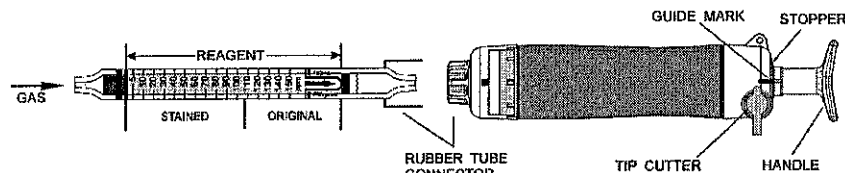

Fig.1
- ② Insert the detector tube into the aspirating pump securely as shown in Fig.1. (Arrow mark shall point to the pump.)
- ③ Align the guide marks on the shaft and stopper of the aspirating pump.
- ④ Pull the pump handle at a full stroke until it locks and wait for 1.5 minutes or until the completion of sampling is confirmed with the flow indicator of the pump (See descriptions about the flow indicator in the instruction manual of the pump).
- ⑤ On completion of sampling, read the scale at the maximum point of the stained layer.
- ① Temperature; No correction is necessary.
- ② Humidity; No correction is necessary.
- ③ Atmospheric Pressure; True concentration = Tube reading × $\frac{1013}{\text{Atmospheric pressure (in hPa)}}$